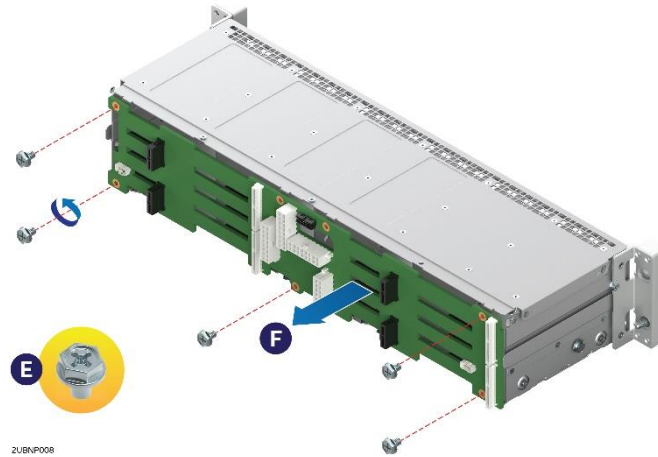

Figure 49. Removing the 12 x 3.5" backplane board from the drive cage
2. Remove the screws from the backplane board (E) and detach the backplane board from the drive cage (F) as pictured in Figure 49.